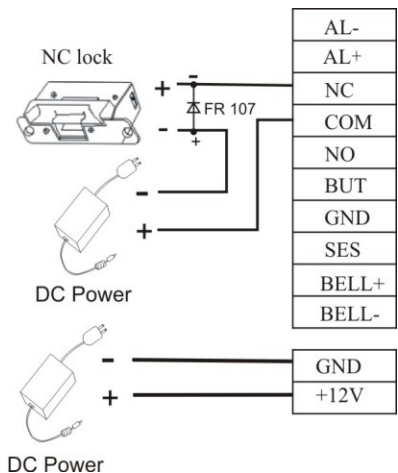
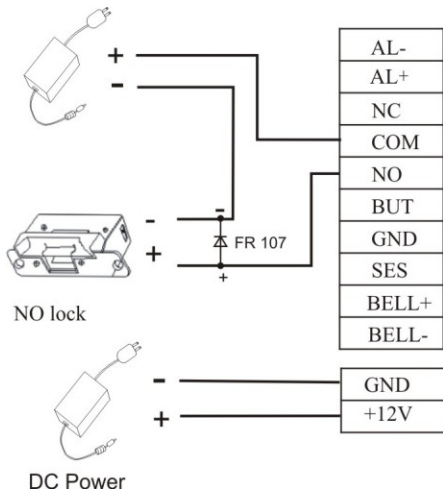

Figure 3 NC electronic lock (adopting an independent power supply)
Figure 4 NO electronic lock (adopting an independent power supply)
2. The device and the electronic lock adopt separate power supply, as shown in Figure 3 and Figure 4: